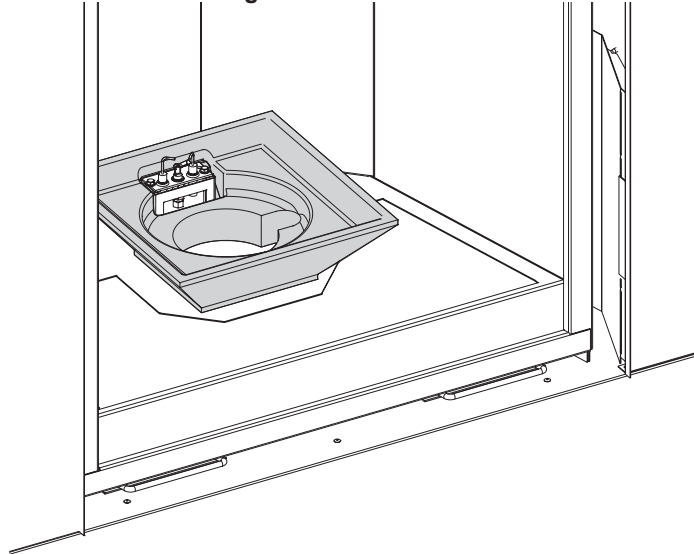

Figure 50
4. Place Decorative Media Vessel over pilot in center of firebox floor. Pilot will protrude through the rectangular opening in the vessel. See Figure 50.